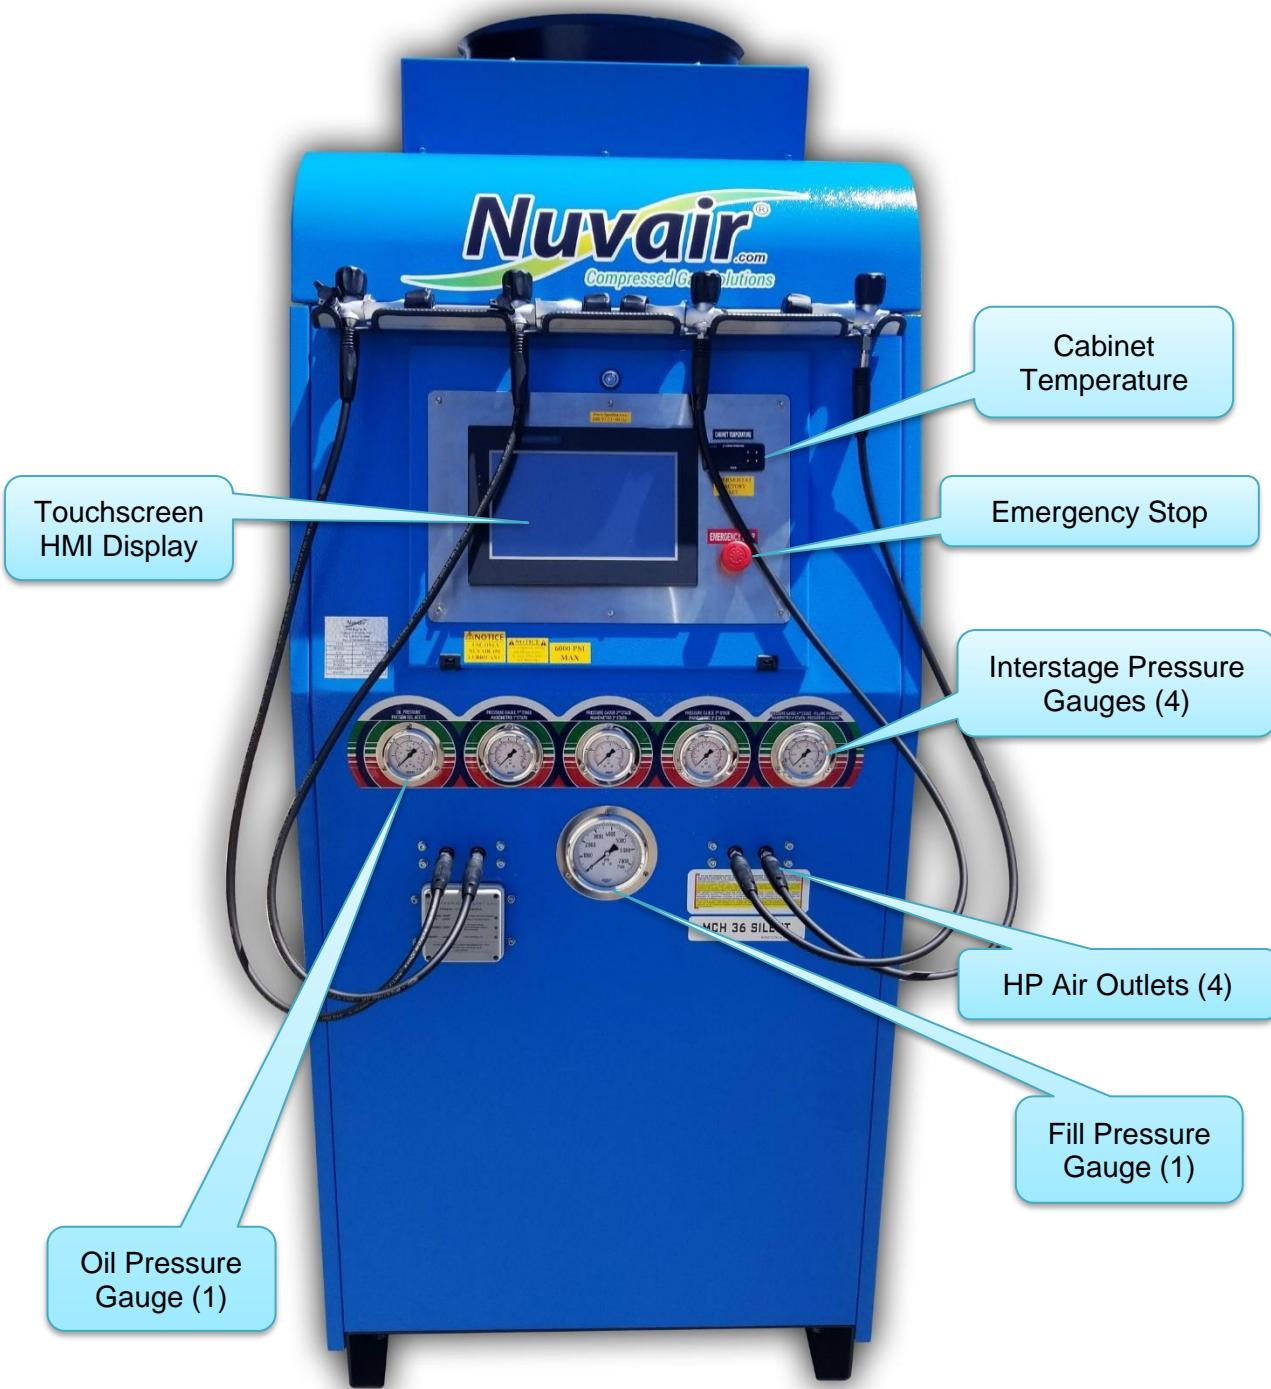

Figure 2. The Nuvair MCH36 Silent Touch Compressor.
To prevent accidents and injuries, all operators must be aware of the potential high-risk areas (Figure 2) of the compressor unit:
9. If an active alarm is present, it will display in the “Alarm Summary” box (Figure 2). Once the alarm is rectified, press “RESET” to clear the alarm. The compressor can be used as normal after resetting the alarm.